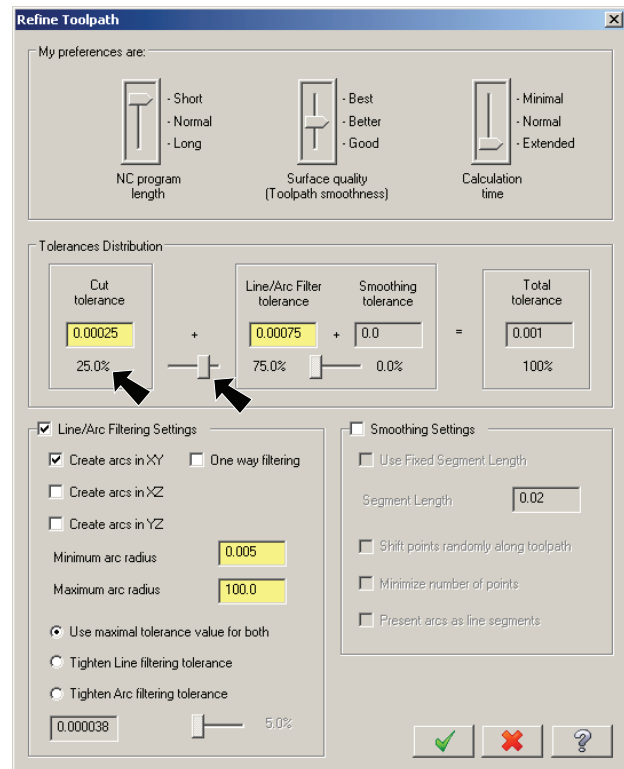

Fig. 19
Step 21. In the **Refine Toolpath** dialog box set: **Fig. 19**